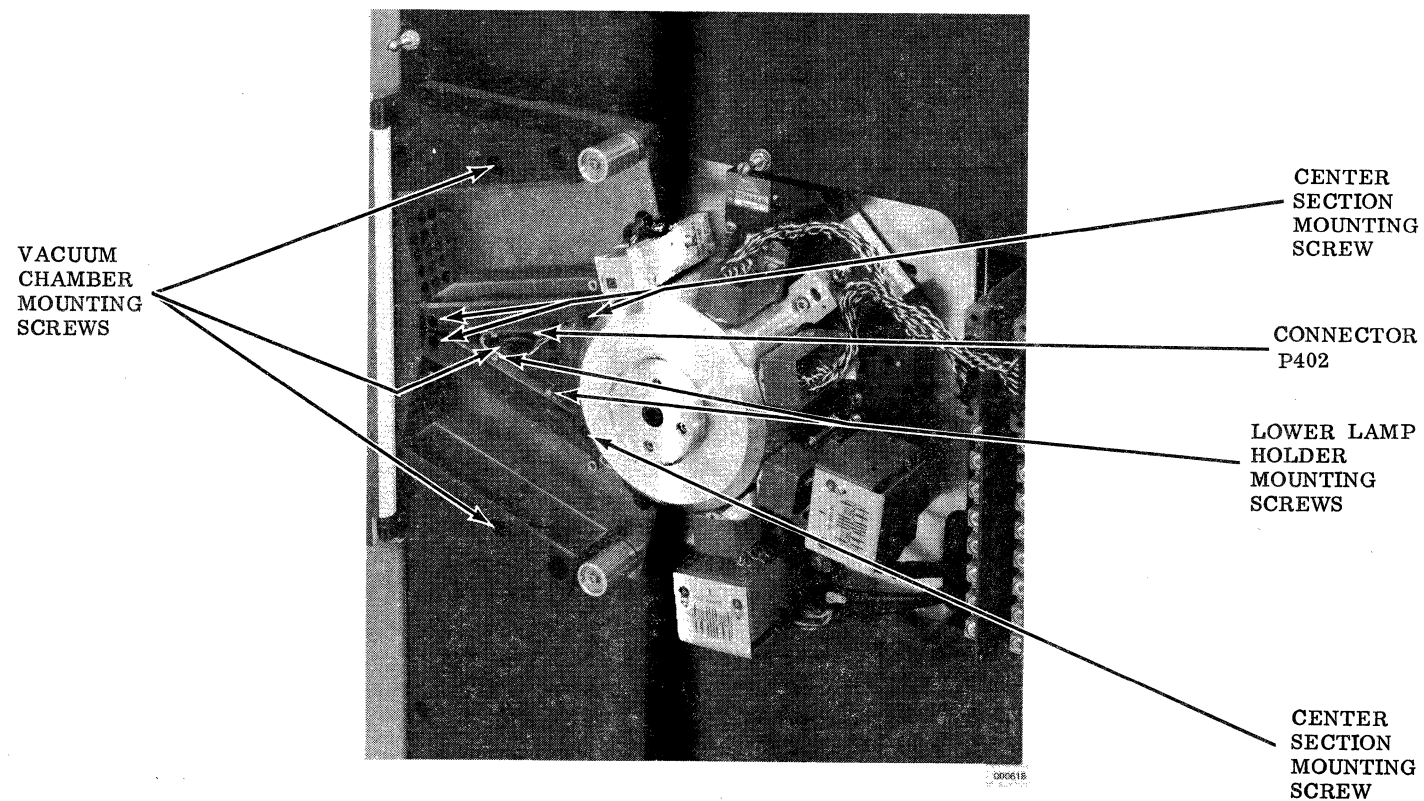

Figure 11-1. Vacuum Chamber Details
To remove and replace vacuum chamber lamps, proceed as follows. (Refer to Figure 11-1 on the next page.)
- a. Turn off transport power and remove the center section assembly from the vacuum chamber. (Four #4-40 hex-socket cap screws.) Unplug P402 to free the center section assembly from the vacuum chamber assembly. (See Figure 11-1 for location of the mounting screws and the connector. The assembly drawing of center section assembly 1252475 is on page 4-12 in Section 4.)
- that hold the vacuum chamber in place. (See Figure 11-1.)